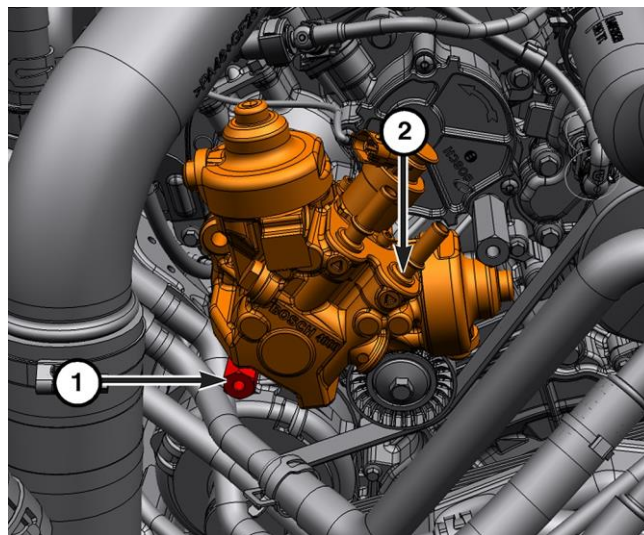

Figure 63 – HPFP Lower Bolts
9. Remove the lower bolt (1) from the HPFP and remove it from the vehicle (Figure 63).